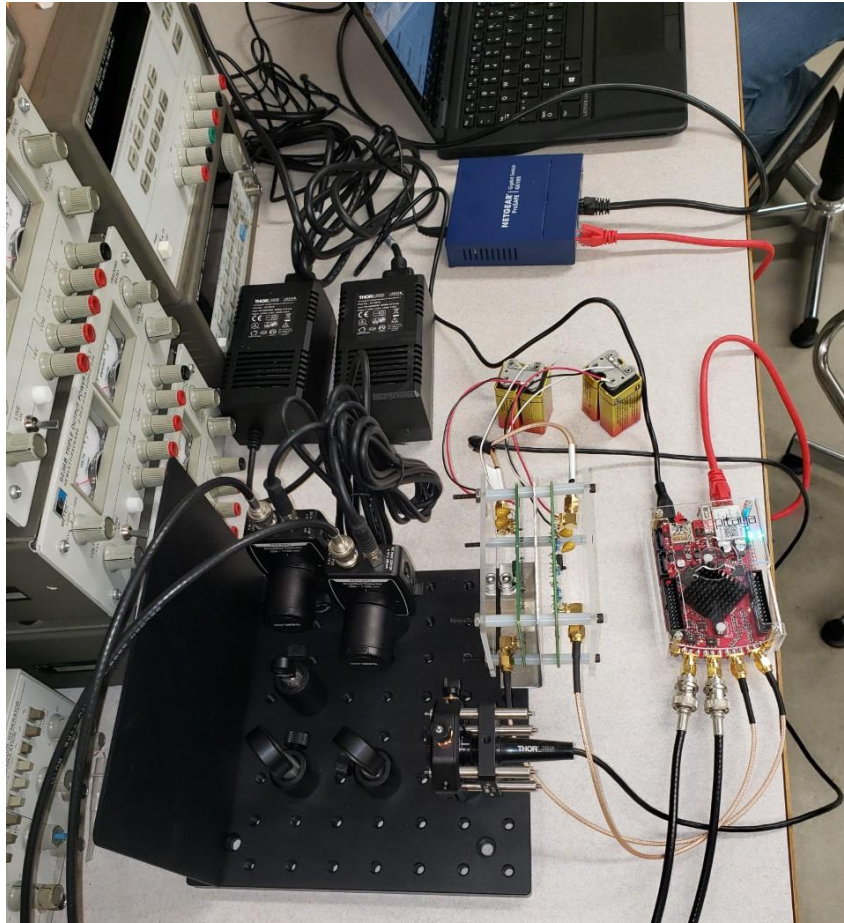

Figure 9: Completed Pound-Drever-Hall Loop Setup
19. The setup is now complete. It is shown in Figure 9 below: